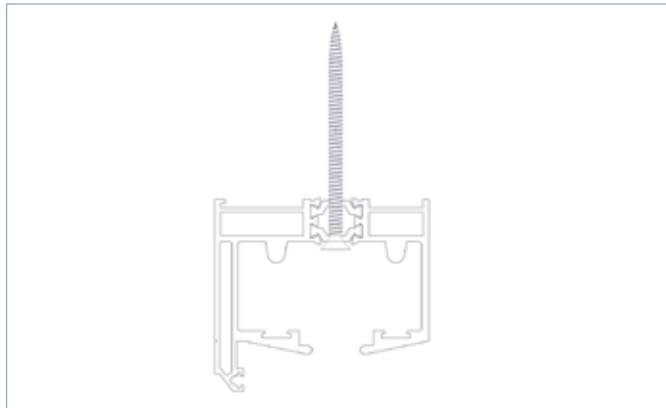

FIG 5E
▶ **5.6.** Install a fixing in the top track approximately 100mm in from the jamb as shown in FIG 5E, being careful not to lift the track from the top of the jamb when the fixing is tightened.